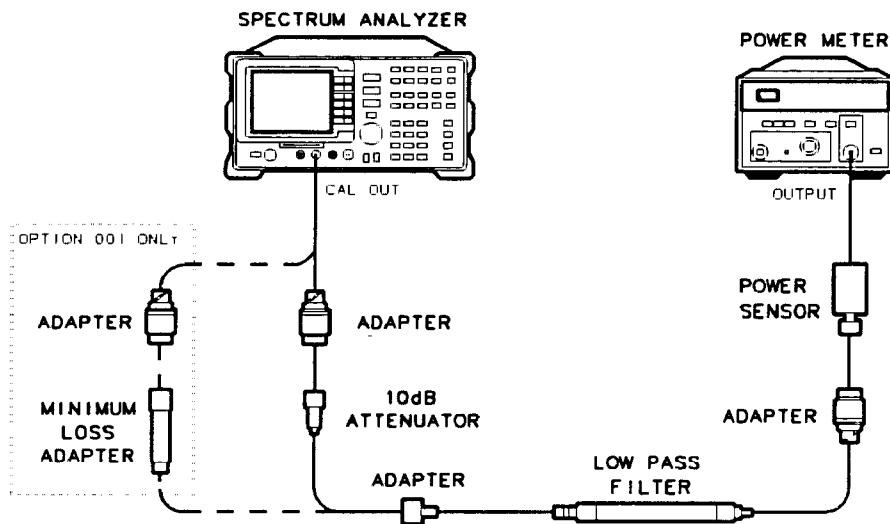

Figure 3-12. Calibrator Amplitude Accuracy Test Setup
11. Connect the equipment as shown in Figure 3-12. The analyzer should be positioned so that the setup of the adapters, LPF and attenuator do not bind. It may be necessary to support the center of gravity of the devices.